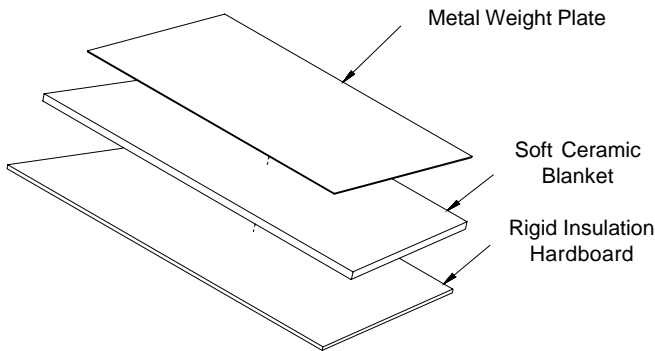

FIGURE 9 - TOP VIEW - Metal Weight Plate, Soft Ceramic Blanket, Rigid Insulation Hardboard
**Step 6.** Carefully take hold and remove the Metal Weight Plate, the Soft Ceramic Blanket and the Rigid Insulation Hardboard with both hands in a downward manner out of the fireplace (see Figures 9 and 10).